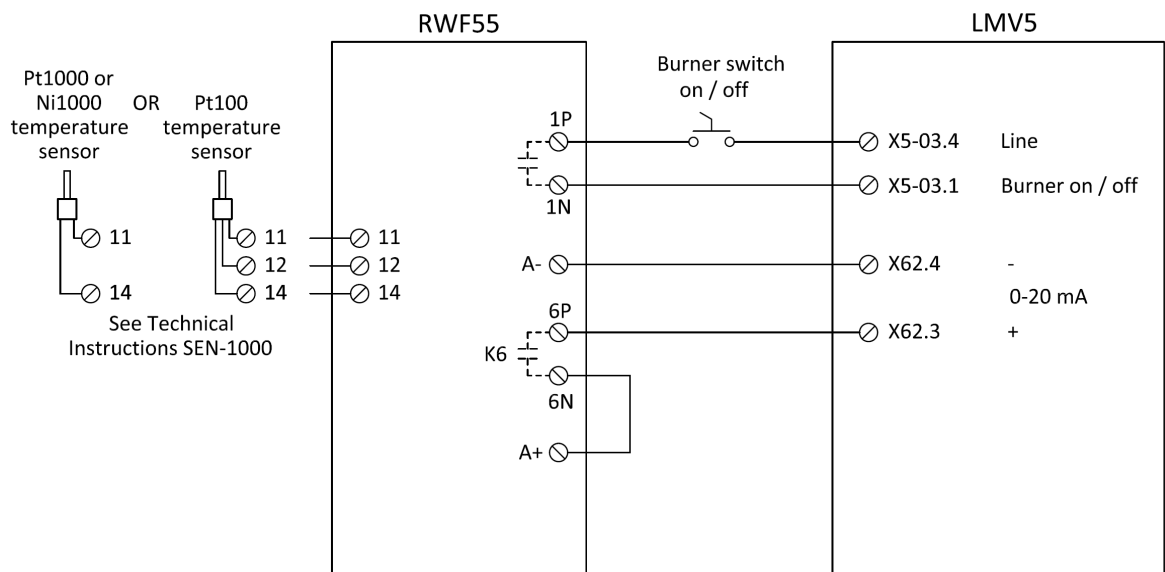

Figure 8: Low Fire Hold via Analog Output on a Hot Water Boiler
3. Wire the LMV5 and RWF55 as shown in Figure 8: